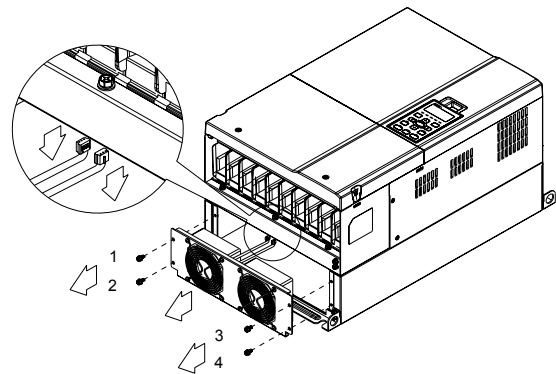

Figure 4
- (Figure 4) Loosen the screws. Screw torque: 24~26kg-cm (20.8~25.6in-lbf).